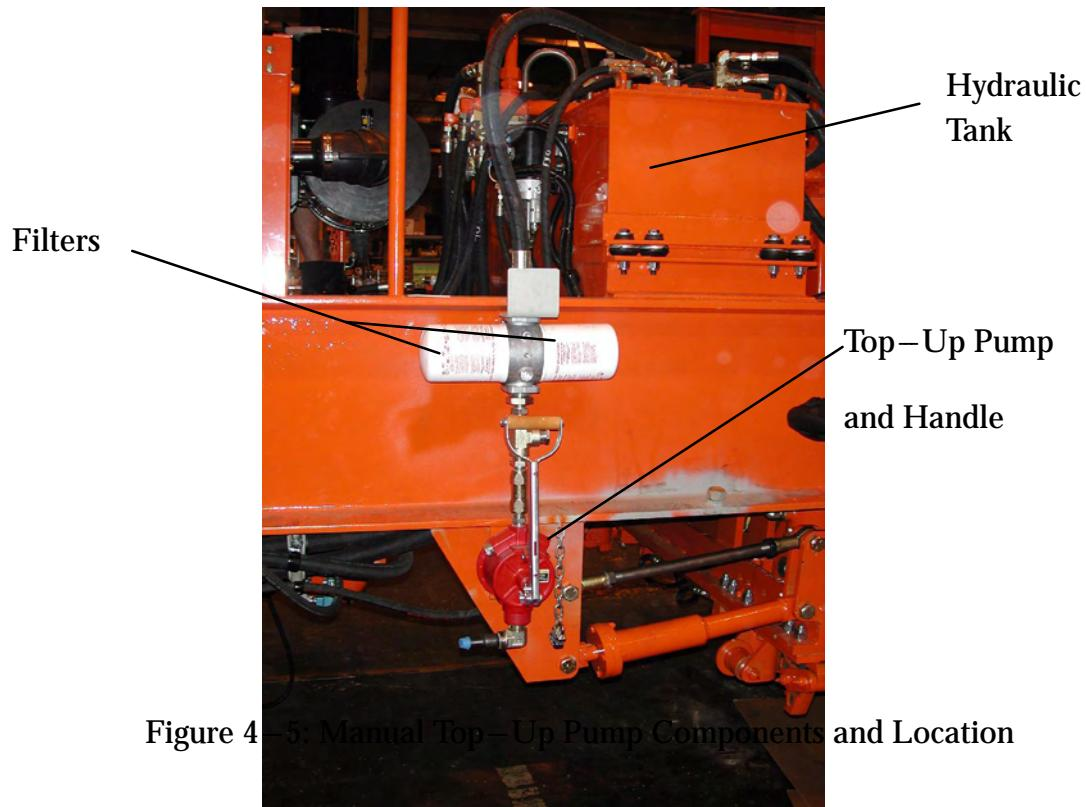

Figure 4-5: Manual Top – Up Pump Components and Location
- S Remove the suction hose from the storage bracket and insert open end into drum or container and secure. Refer to Figure 4-5.
- S When the Top-Up operation is completed, remove the suction hose from the container and return it to the storage position and secure. Refer to Figure 4-5.